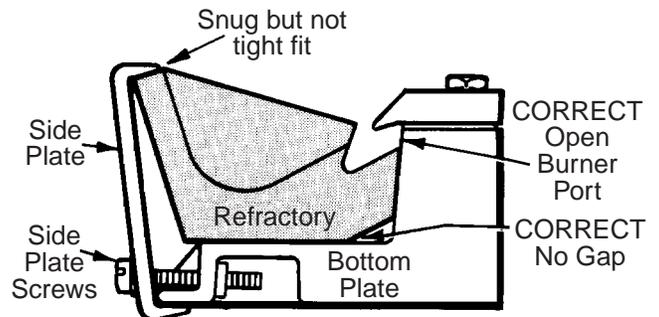
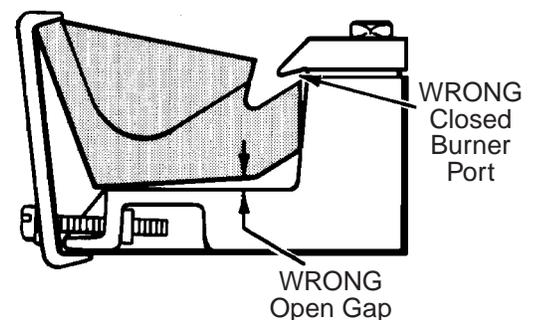

FIGURE 1
FIGURE 3
1. Loosen the two side plate screws as far as possible without removing. Nuts will not turn since they are held captive. (Figure 1)
7. **IMPORTANT** - Refractory must fit flat against bottom plate as shown in Figure 1. Figure 3 is **WRONG**.
8. Side plate is pushed into position over refractory. This fit should be snug but not tight. (Figure 1)